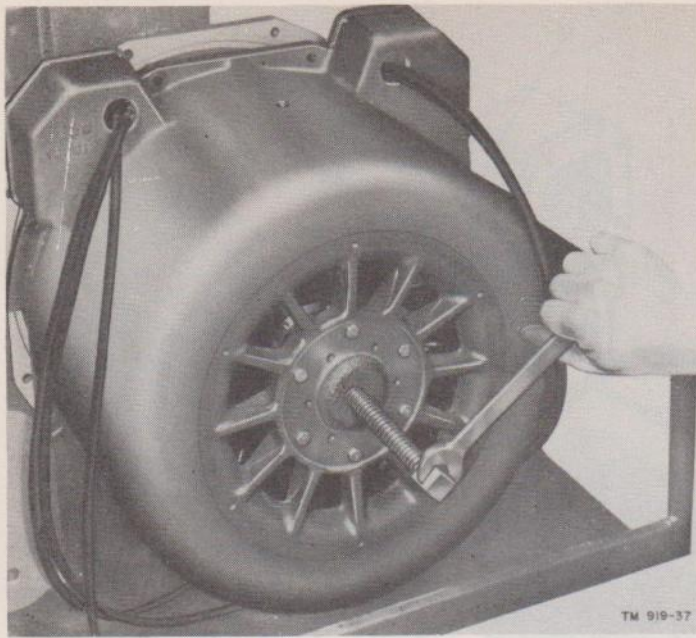

Figure 37. Removing stator housing.
(1) If the upper frame has not been removed, disconnect leads from the alternator as necessary.
(2) Refer to paragraph 53p and remove the voltage regulator as instructed.
(3) Remove the bolts (1) which secure the stator housing (16) to the flywheel housing.
(4) Remove the screen (8) from the housing.
(5) Remove the six bolts (9) from the inner row on the bearing cover plate (11). Screw the puller bolt (furnished with the unit) into the tapped hole in the center of the cover plate. Turn the bolt until the housing is about halfway off the rotor as shown in figure 37.